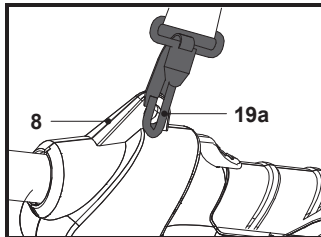

Fig. 13
2. Adjust the length of the harness (19) so that the securing clip (19a) is approximately 15 cm below your waist.
3. Attach the securing clip (19a) to the loop the suspension sleeve (8) (Fig. 13).